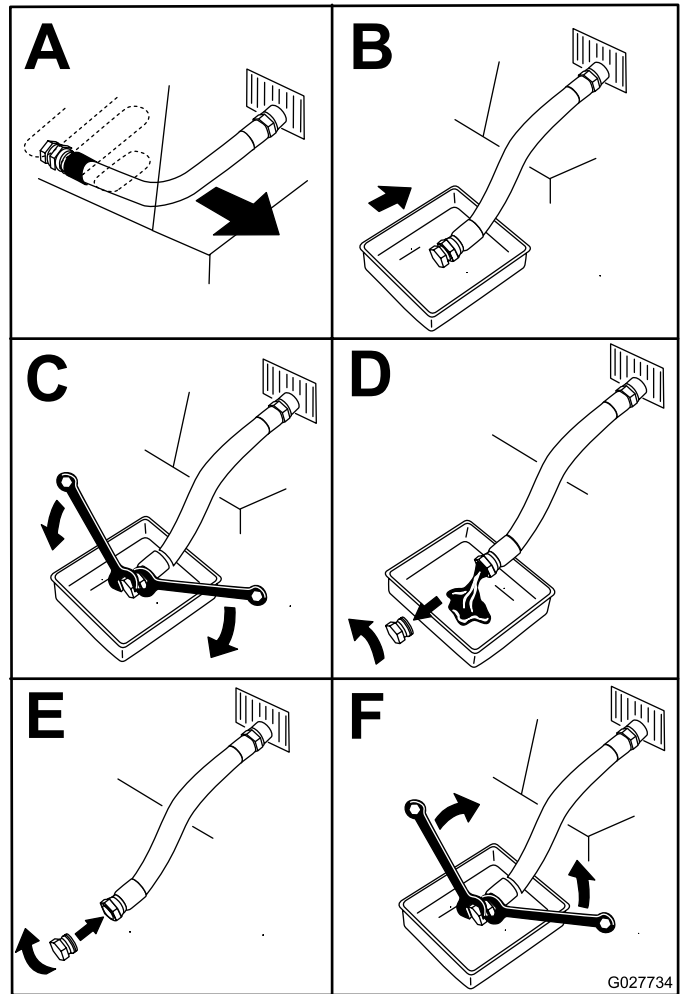

Figure 45
5. Drain the oil from the engine (Figure 45).